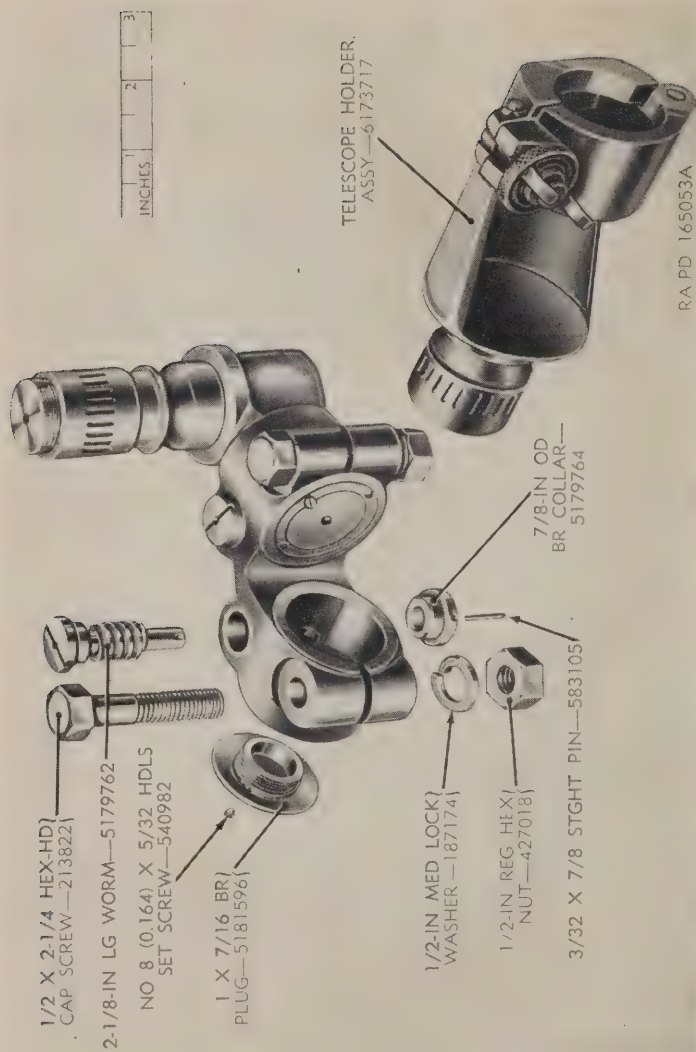

Figure 79. Telescope mount M71—removal of the telescope holder assembly from the telescope holder housing—exploded view.
(fig. 79)
c. Lubricate (par. 26) the  $2\frac{1}{8}$ -inch long worm (fig. 79). Using a screwdriver, screw the worm into the telescope holder housing. Press the  $\frac{7}{8}$ -inch OD brass collar on the protruding end of the worm. Align the straight pin holes in the collar and worm. Press or drive in the  $\frac{3}{32}$  x  $\frac{7}{8}$  straight pin, to secure the collar to the worm.